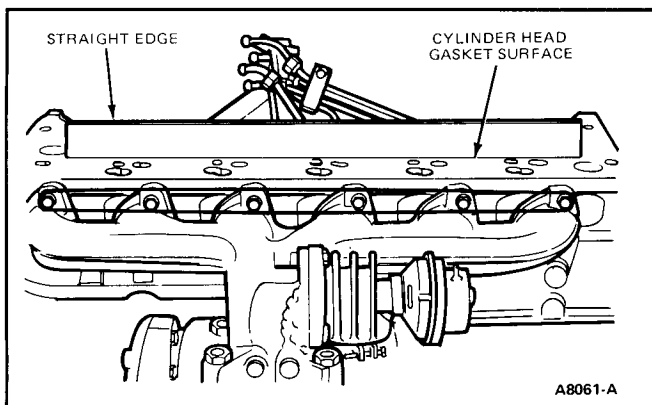

FIG. 26 Cylinder Head Warpage Check
1. Clean gasket sealing surfaces on cylinder head and crankcase. Check for warpage (Fig. 26).